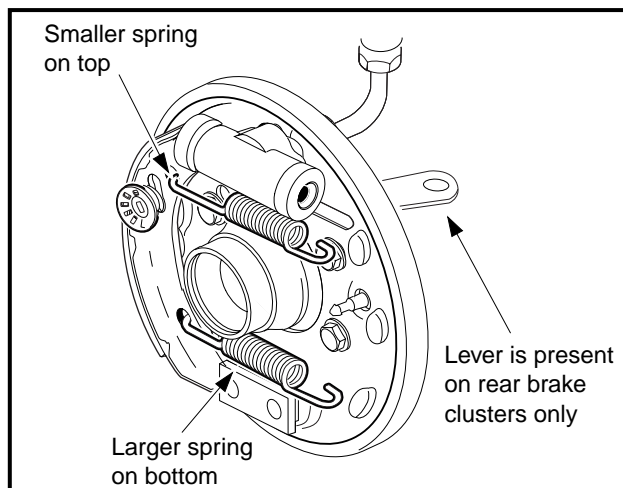

Figure 6-10 Brake Shoe Springs
3. Attach the springs onto the shoe already installed (**Figure 6-10, Page 6-12**), then hold the rear shoe next to the front shoe, correctly oriented, and attach the springs (10 and 11) to the shoe as illustrated (**Figure 6-1, Page 6-2** or **Figure 6-18, Page 6-20**).